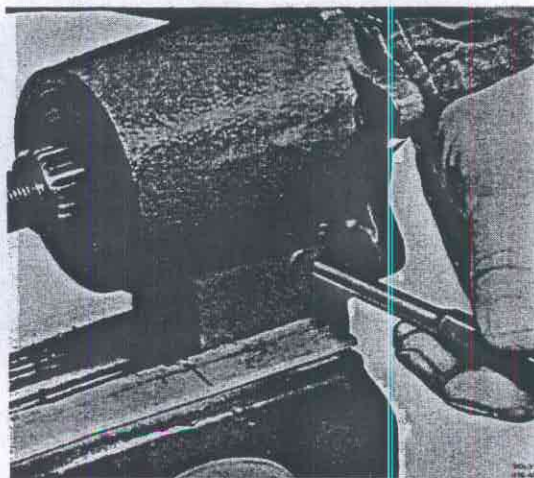

Fig. 43-161. Driving out shaft
5. Drive out the shaft holding the selector fork, Fig. 43-161. Note that the shaft can only be driven out in one direction, see Fig.